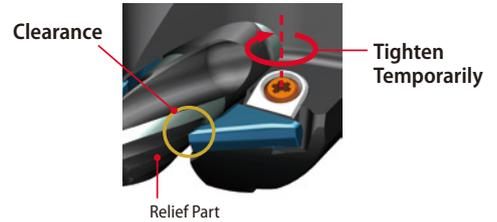

Fig.2 Install Inserts
**2** Install an insert and tighten temporarily with clearance between the cutting edge and DRA body (Fig.2)